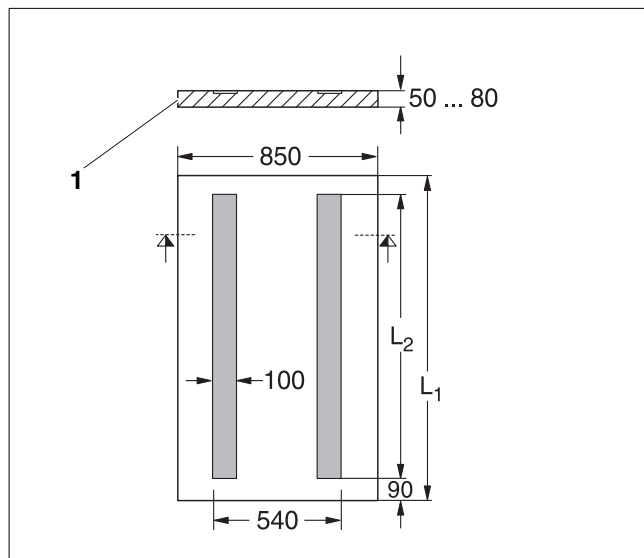
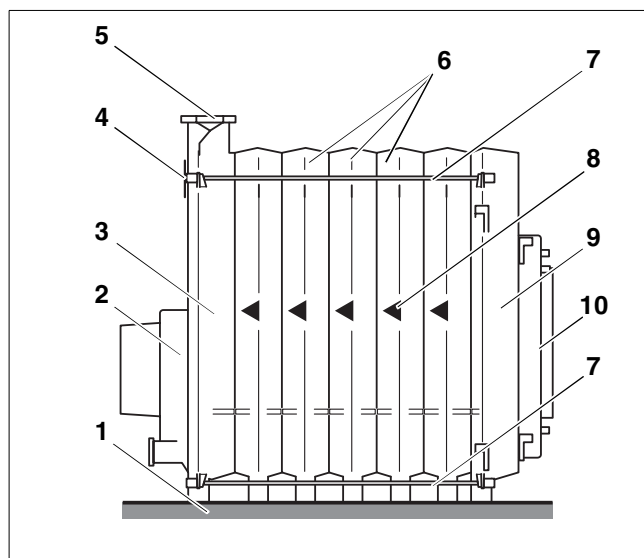

Fig. 3 Dimensions of plinth
Fig. 5 Boiler block
It is best for the boiler to be installed on a 5 – 8 cm high plinth (Fig. 5, **ref. 1** and Fig. 3, **ref. 1**). The plinth should be absolutely flat and horizontal. The front face of the boiler should line up with the front edge of the plinth.
If the boiler base is not used, a concrete plinth can be laid on site. When laying the plinth, 100 x 50 x 8 mm strips of angle steel or even 100 x 5 mm flat steel strips should be laid in it to act as slides for the boiler sections when the boiler is being assembled (see Fig. 3 and the table below).
A boiler block is always assembled from the back forwards, starting with the rear section (Fig. 5, **ref. 3**). The front section (Fig. 5, **ref. 9**) is always the last section to be fitted.
When assembling a boiler, always follow the arrows indicating direction of insertion (Fig. 5, **ref. 8**) and always work from the illustrations and instructions given below!
Legend (Fig. 5):